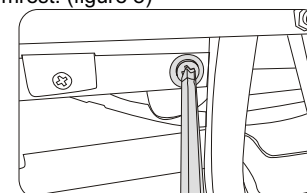

Figure 8
- Tighten the screws on the back-end of armrest. (figure 8)